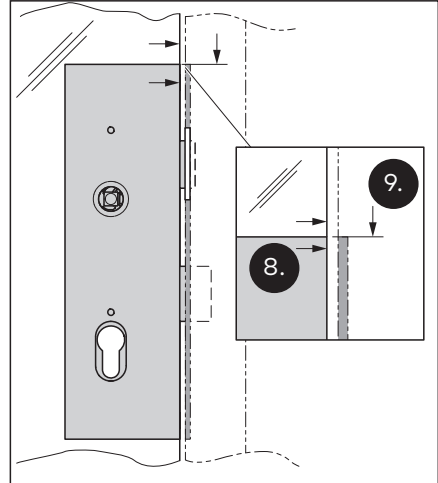

Fig. 34 Align the lock mortise and the latch
8. Align the lock mortise so that it is vertically flush with the glass edge (Fig. 34).